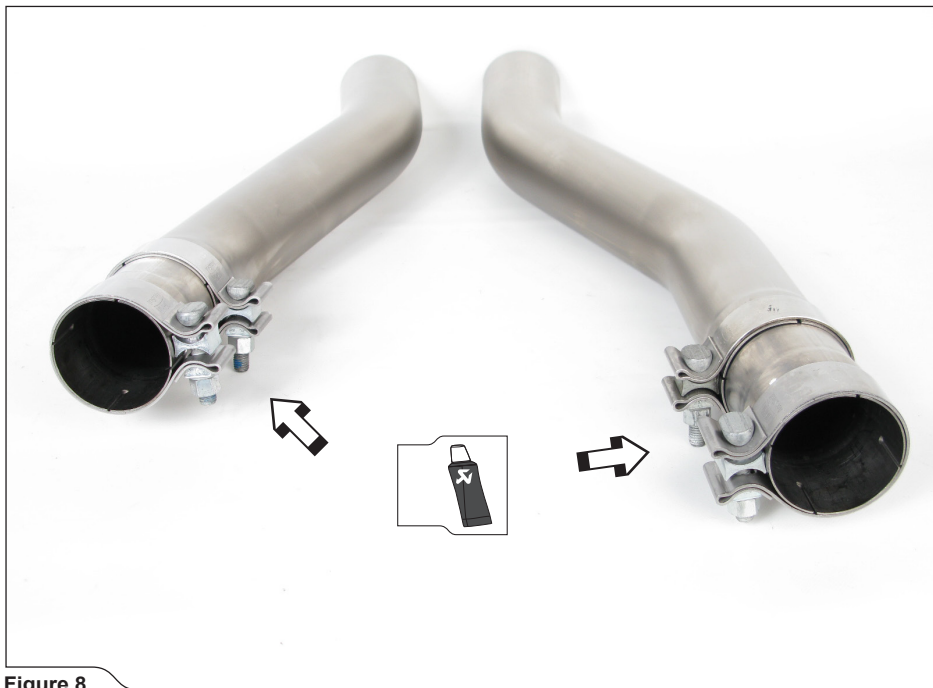

Figure 8
2. **For Turbo, Turbo S, S, V6 and Hybrid models only:** correctly assemble the adapters and clamps onto the muffler link pipes (**Figure 8, 9**).